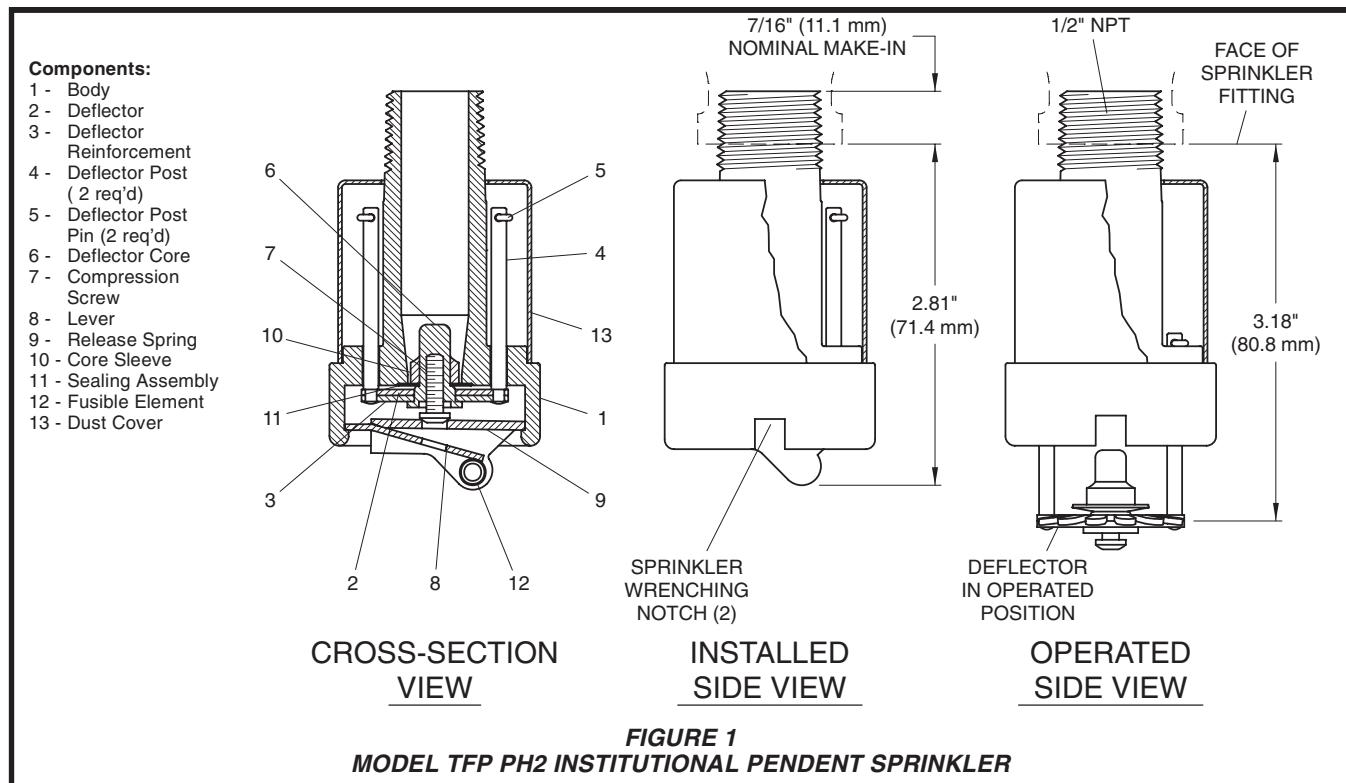
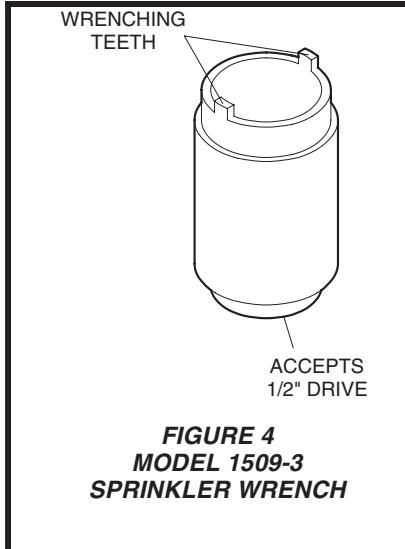

FIGURE 1
FIGURE 4
Step 3. Wrench tighten the Sprinkler using only the Model 1509-3 Sprinkler Wrench (Ref. Fig. 4). The wrenching teeth of the Sprinkler Wrench are to be applied to the sprinkler wrenching notch areas (Ref. Fig. 1).